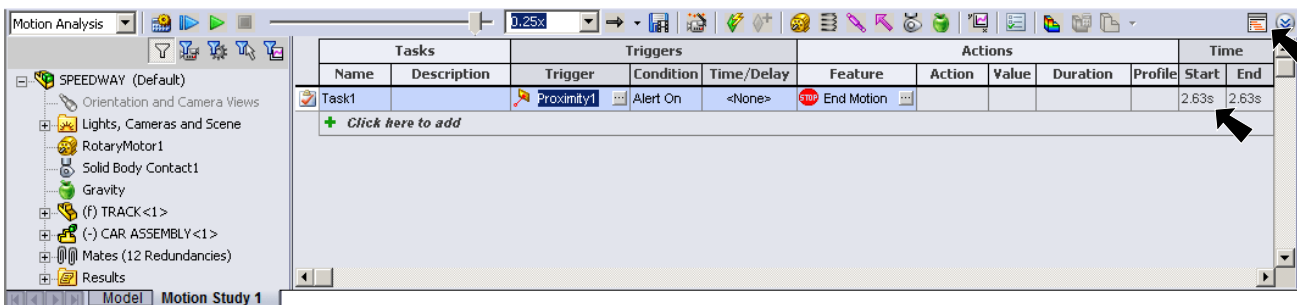

Fig. 22
Step 7. Under Time, what is your time, Fig. 22?
Step 8. Click Timeline View  on the far right end of Motion Manager toolbar to switch to Timeline View, Fig. 22.